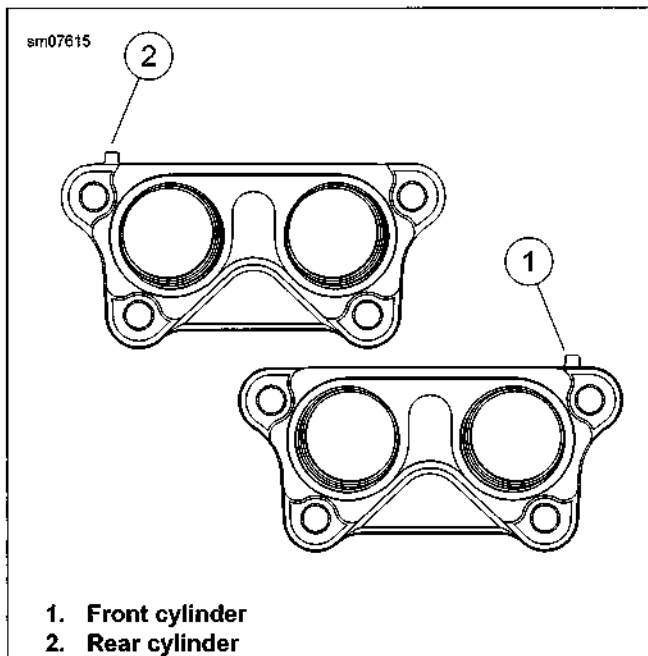

Figure 3-68. Tappet Cover Orientation
2. See Figure 3-68. Orient tabs of the front (1) and rear (2) tappet covers to the front and rear cylinders.